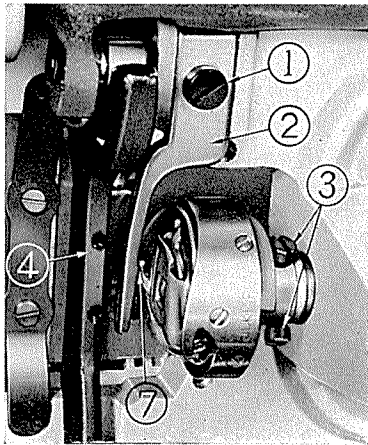

Fig. 16
9. Inserting the bobbin case (Figs. 16 and 17)
17. Mounting and removing the sewing hook (Figs.16, 17 and 18)